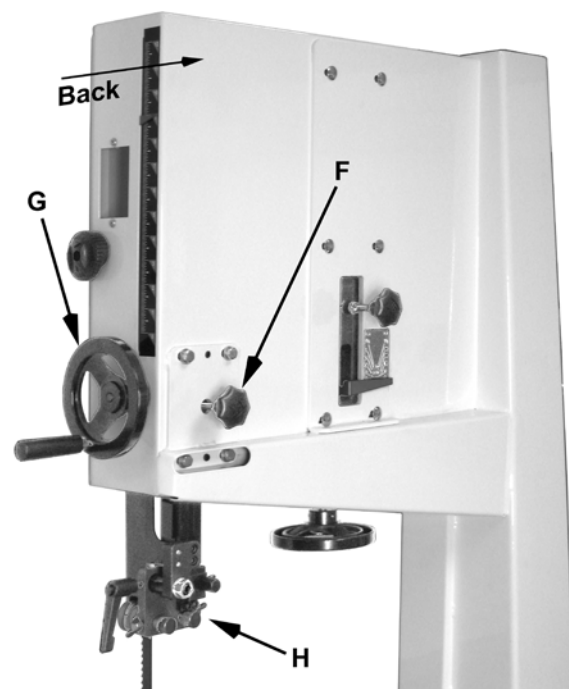

Figure 18
5. Lower the *upper blade guide assembly* (H, fig. 18) by loosening the *knob* (F, Fig. 18) and rotating the *handwheel* (G, Fig. 18).